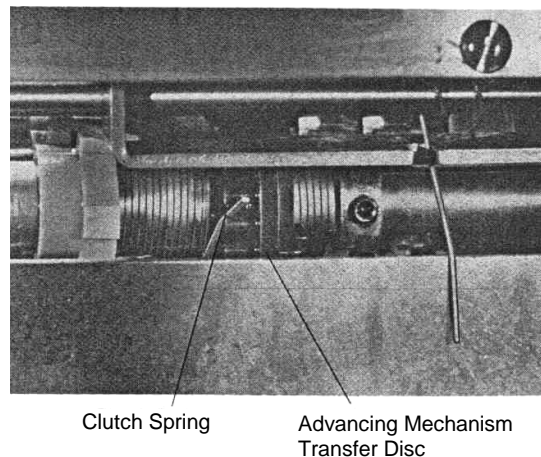

Figure 17. Adjusting Sales Number Advancing Mechanism
1. Sales number advancing mechanism, Figure 17, is tripped when printing occurs. The movement of the sale advance wheel starts immediately with rotation of the input shaft and completes transfer within 1/4 of a revolution. If the sales number on the right-hand wheel does not align properly with the other wheel, it must be adjusted.